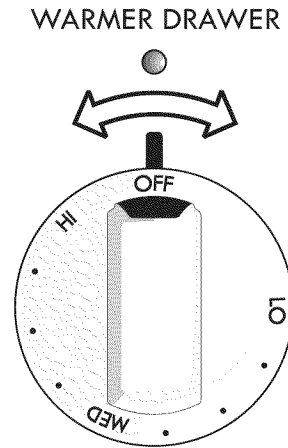

Fig. 1
4. Push in and turn the warmer drawer control knob in either direction to the desired temperature setting (See Fig. 1).